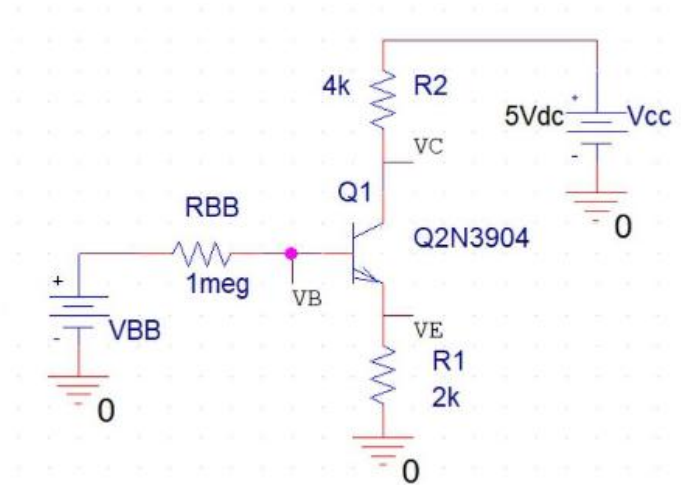
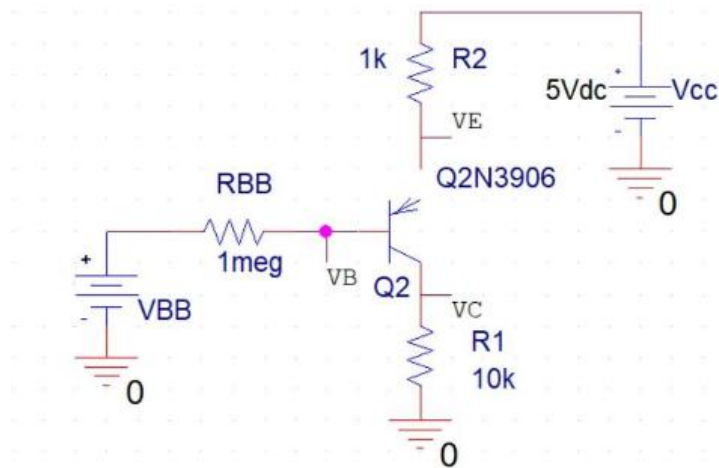

Figure 3 - BJT DC Circuit (NPN)
Figure 4 - BJT DC Circuit (PNP)
1. Set up circuit (NPN) in figure 3 on the breadboard.
6. Determine the region of operation of the transistor based on table (1).
8. Repeat the same steps for the PNP circuit in figure 4.